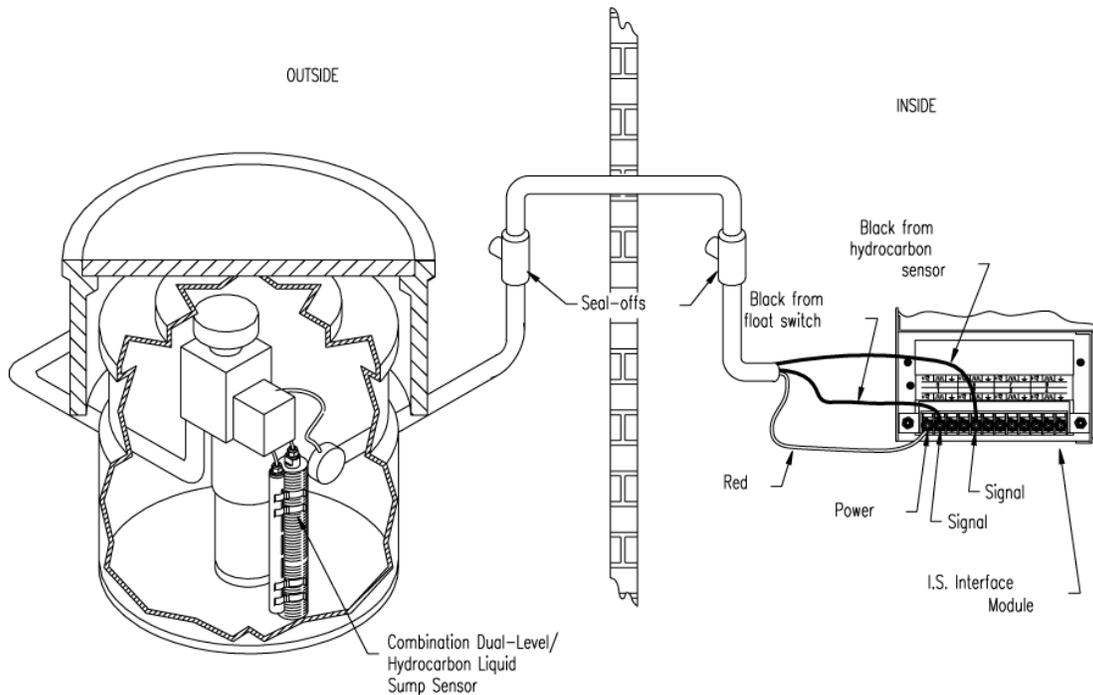

Figure 13-23 Combo Dual-Level & Hydrocarbon Liquid Sensor Installation
- Review Figure 13-23 on page 74.